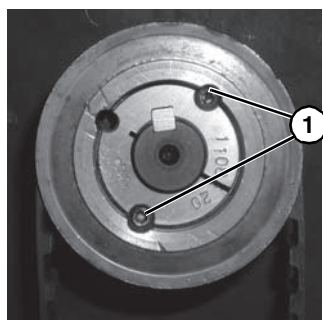
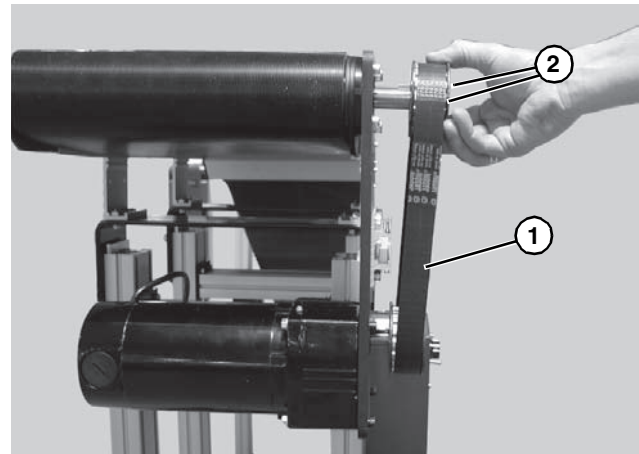

Figure 8
Figure 12
7. Tighten driven pulley taper-lock screws (Figure 8, item 1).
3. Remove timing belt (**Figure 12, item 1**).
If timing belt does not slide over pulley flange, loosen driven pulley taper-lock screws (Figure 8, item 1) & (Figure 12, item 2) and remove pulley with belt (Figure 12, item 1). For re-installation, see steps 5 thru 7 on page 9.